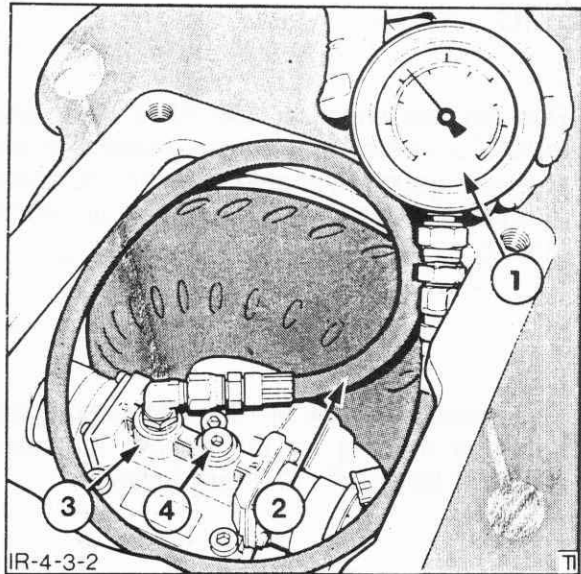

Figure 4-207
1. Remove the access cover from the top of the transmission. Attach a 300 lbf/in² pressure gauge to the reverse test port on the control valve, Figure 4-207.